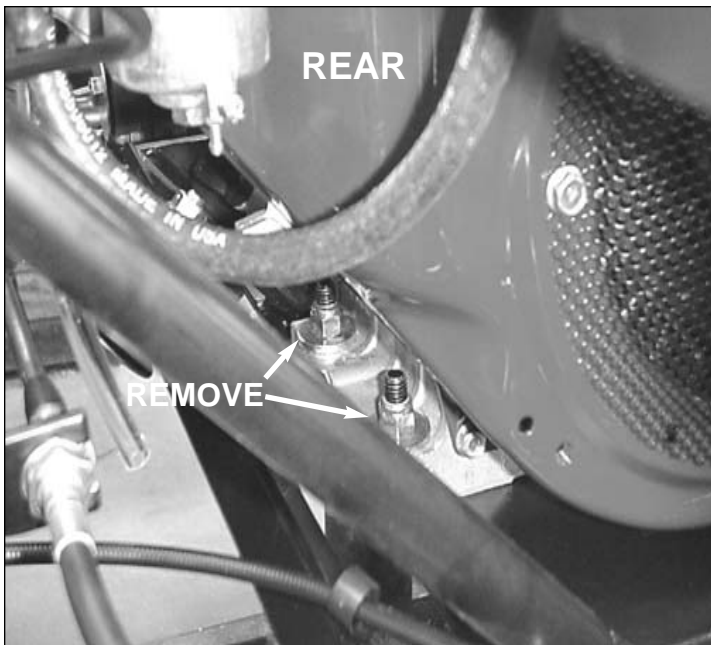

Figure 80 - Engine Mount Bolts
12. Remove four bolts securing engine to engine mount plate. See Figure 80. Remove engine.